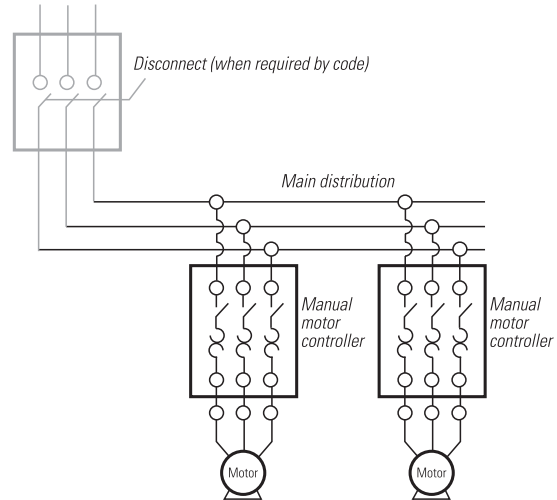

Figure 3A
Surion GPS1BH* and GPS2BH* Manual Motor Starters may be used as combination starters (UL508 Part IV) and have been evaluated by UL as manual self-protected combination motor starters (Type E) for applications 277/480 and below. They provide coordinated branch circuit short circuit protection consistent with Section 430-52(c) (6) of the NEC; a disconnecting means consistent with Section 430-109 (a) (5); a motor starter and coordinated motor overload protection (see Figure 3A). These starters may be used for controlling motors without additional upstream branch circuit protection. They may be used in place of branch devices in motor circuits only. When used in panels with multiple motor circuits, a main circuit disconnect is required in sight and within 50 feet for the protection of service personnel.